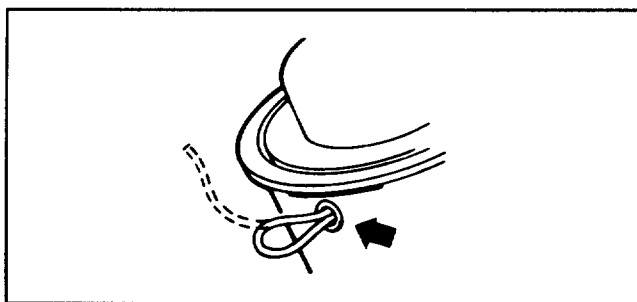

Figure 11
2. After each use, either retaping or looping the line through the eyelet will prevent unraveling of line on spool (Fig. 11).
9. After each use, either retape or loop the line through the eyelet (Fig. 11) to prevent unraveling of line.